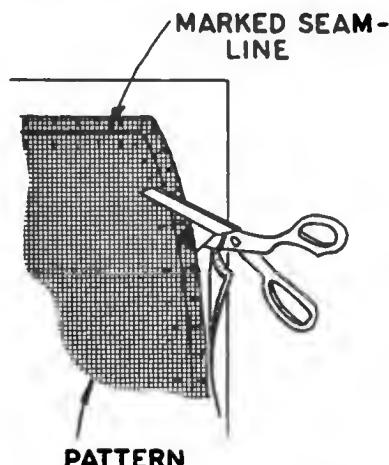

Fig. 271. Cutting out the skirt.
2. Cut the notches beyond the seam (Fig. 271).